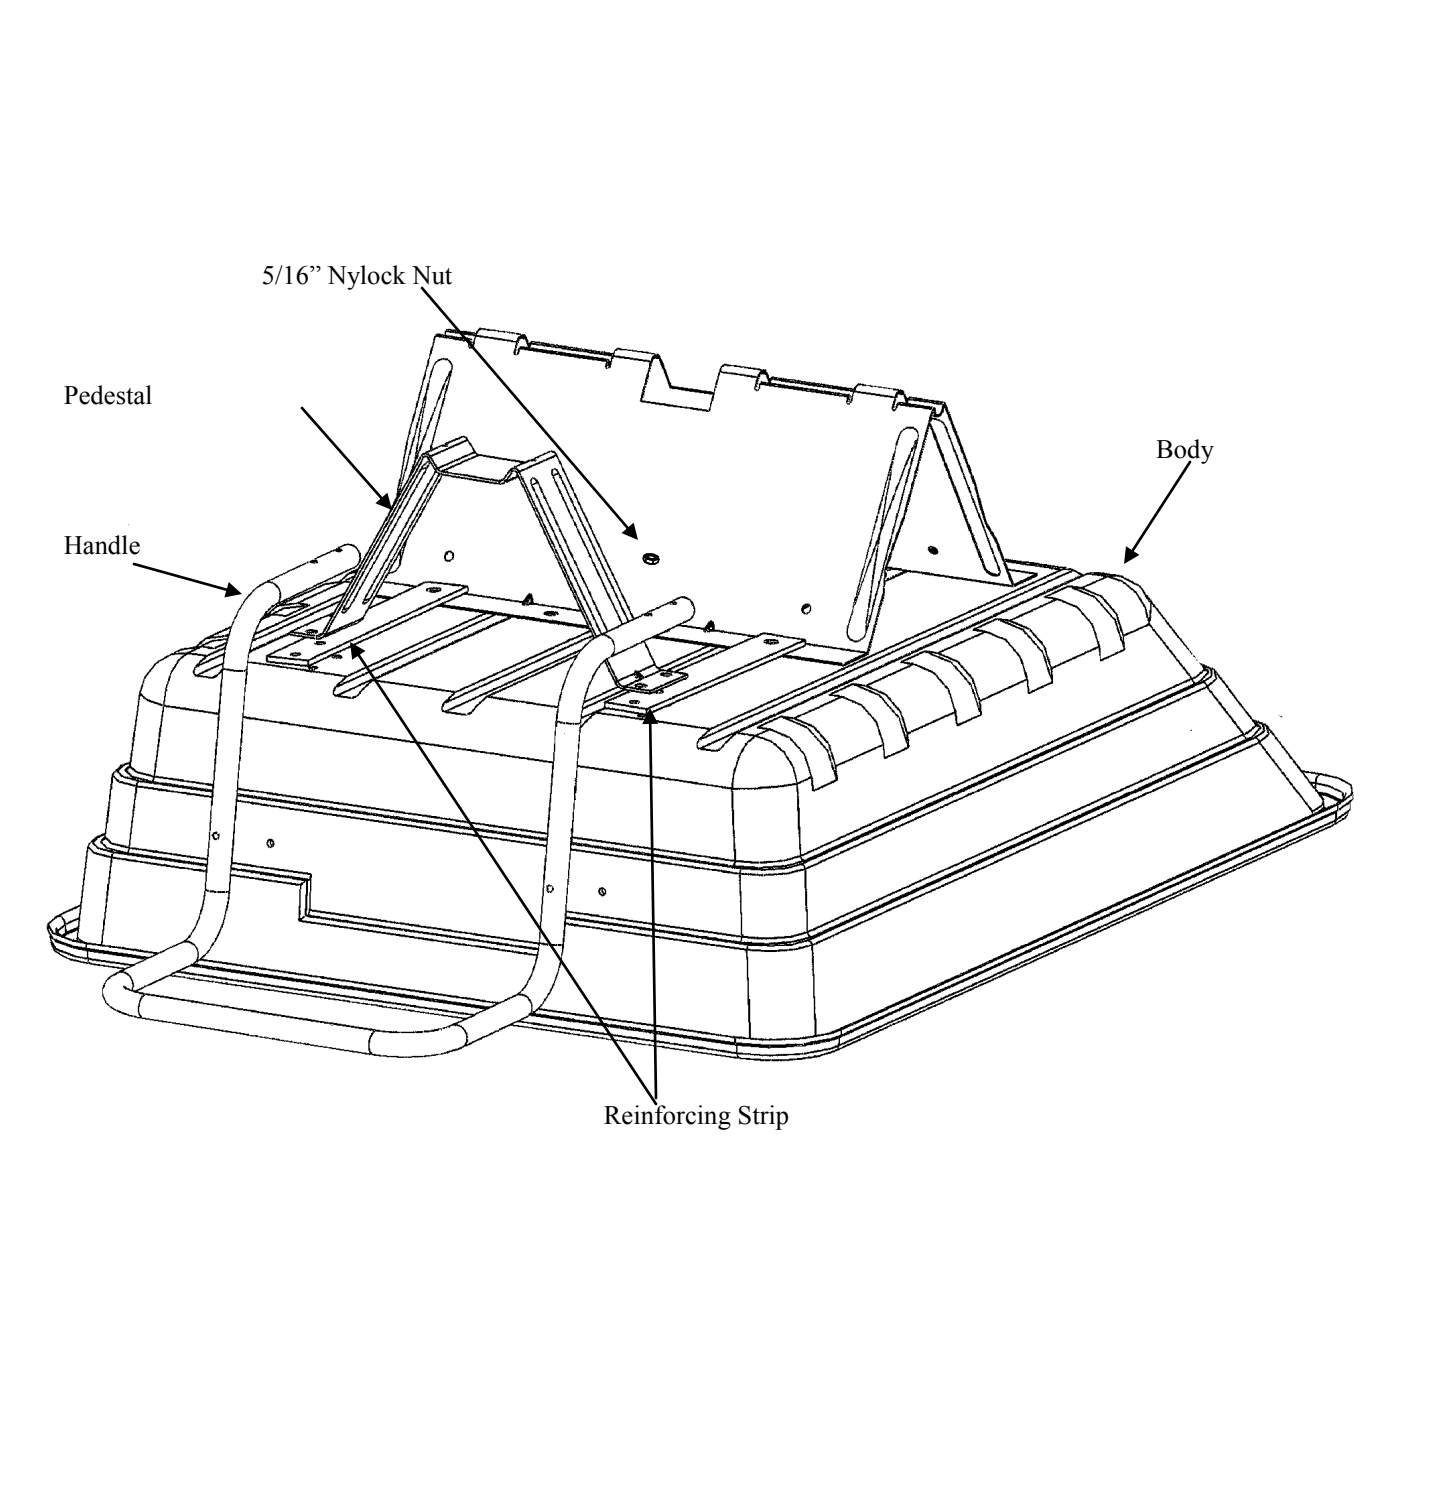

Figure 8
9. Attach the Pedestal on top of Reinforcing Strip and Handle using four 5/16" x 2" Hex Head Bolts, the bolts go through a 5/16" Flat Washer then into the front holes in the Body, through the holes in the Pedestal then through the Handle. Secure with 5/16" Nylock Nuts. See Figure 8.